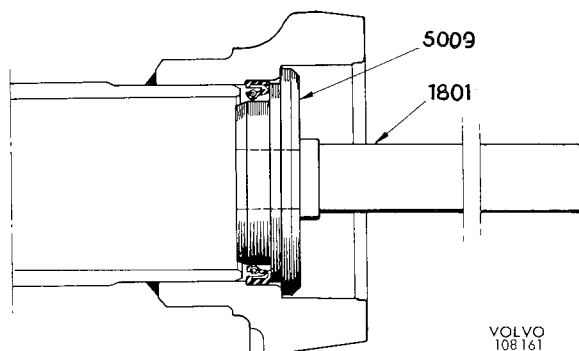

Fig. 4-134. Inner sealing ring installation
7. Drive in the inner sealing ring with drift 5009 and handle 1801. The drift is so designed that it will install the ring in its correct position, see Fig. 4-134.